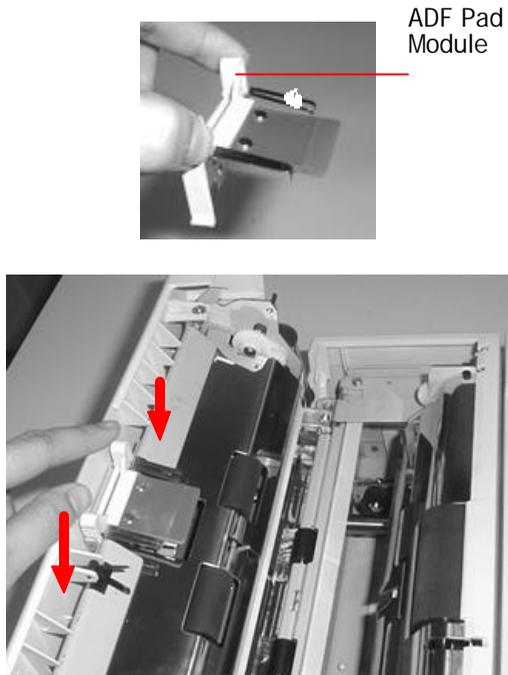

Figure 2 Install the pad module
2. Use your fingers to hold the ADF pad module and place it gently to the pad holder as shown in Figure 2.